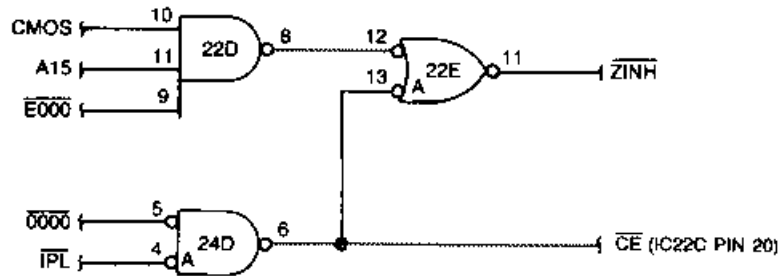

FIGURE 2-35. Z-80A RAS INHIBIT CIRCUIT
2.3.2.6 Z-80A RAS Inhibit Circuit (Figure 2-35)